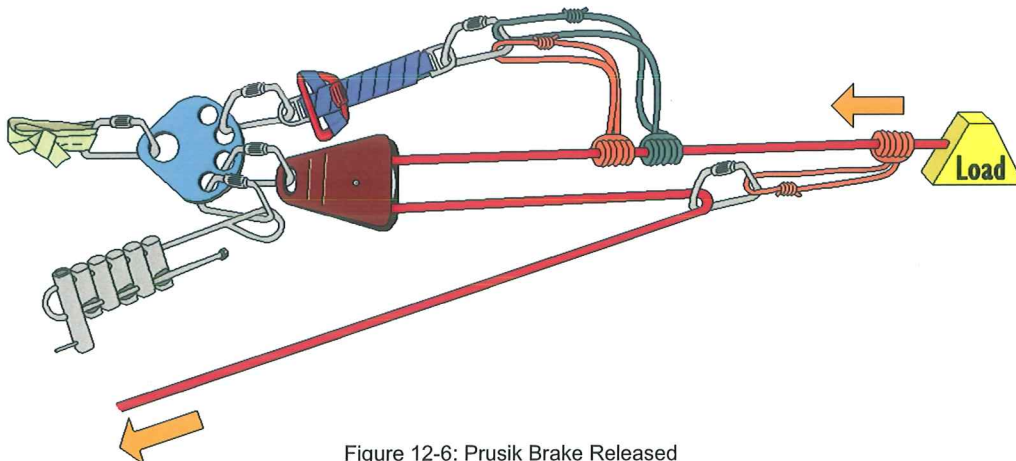

Figure 12-6: Prusik Brake Released
8. Release the prusik brake. (Figure 12-6)